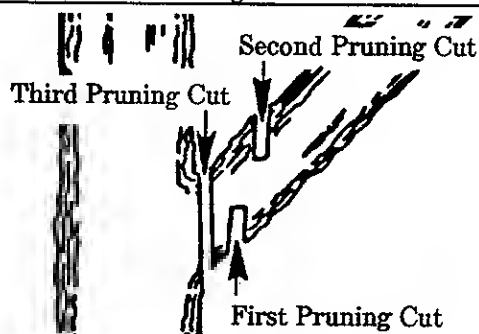

Figure 24
- b. **Refer to Figure 24 for the pruning technique.**